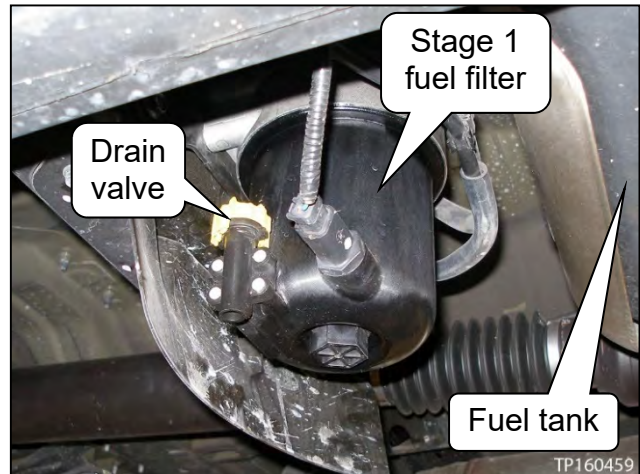

Figure 24
- Open the drain valve and allow fuel to drain in a suitable container until the fuel slows down to a trickle (see Figure 24).